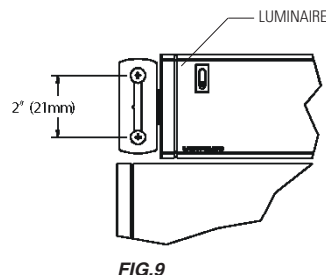

FIG.9
Note: For more stability, install 4 anchors 2 in. from center of the luminaire. (Fig.9)
3. For more stability depending on optical assembly orientation, secure with 2 screws from each end of assembly (optional). (Fig. 9 & 12)